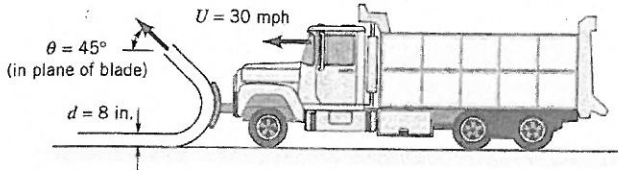

Figure P5.83
5.83  A snowplow mounted on a truck clears a path 12 ft through heavy wet snow, as shown in Figure P5.83. The snow is 8 in. deep and its density is 10 lbm/ft³. The truck travels at 30 mph. The snow is discharged from the plow at an angle of 45° from the direction of travel and 45° above the horizontal, as shown in Figure P5.83. Estimate the force required to push the plow.